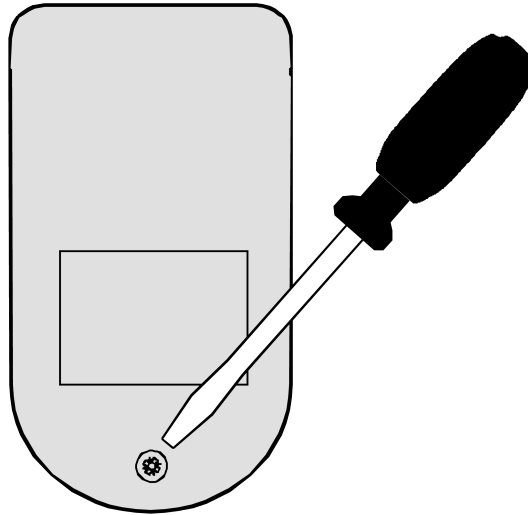

Figure 4: Slacken screw
- Slacken screw on the rear of the enclosure of the hand-held transmitter and open enclosure (Figure 4).